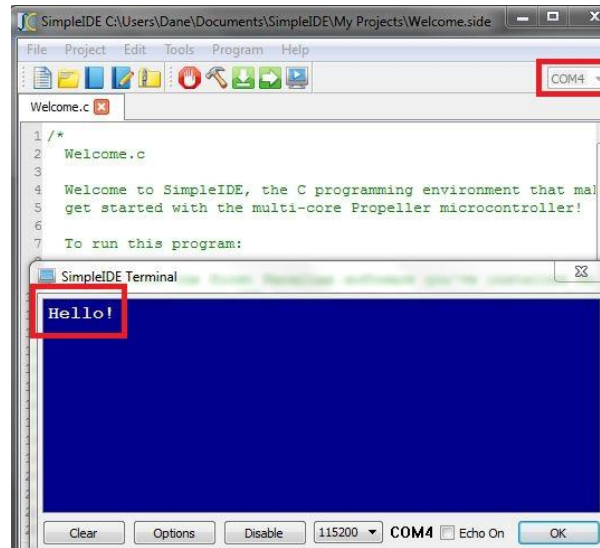

Fig. 8: COM Port (COM4) selected & “Hello!” message displayed in SimpleIDE Terminal
9. Open SimpleIDE, and specify the correct COM Port in the upper right hand corner as seen in **Fig. 8**. In the toolbar, select Program>Run with Terminal (or press F8), and verify that the “Hello!” message appears in the SimpleIDE Terminal as shown in **Fig. 8**.